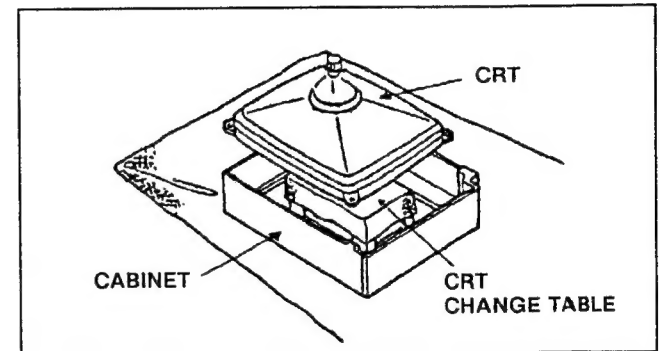

Fig. 5
- 4. After four screws have been removed, put the cabinet slowly on cloth (At this time, be carefully so as not to damage the front surface of the cabinet) shown in Fig. 5.